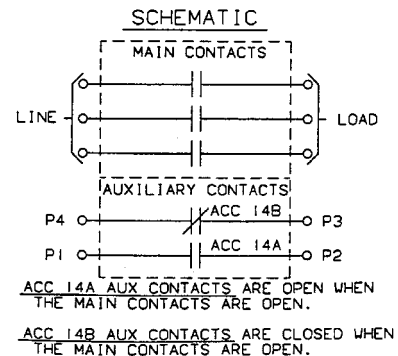

Figure 17. Wiring connections to auxiliary contacts.
6. Manually operate the switch (see page 2) to check operation of the auxiliary contacts. Then connect the wiring to unit. See Figure 17.